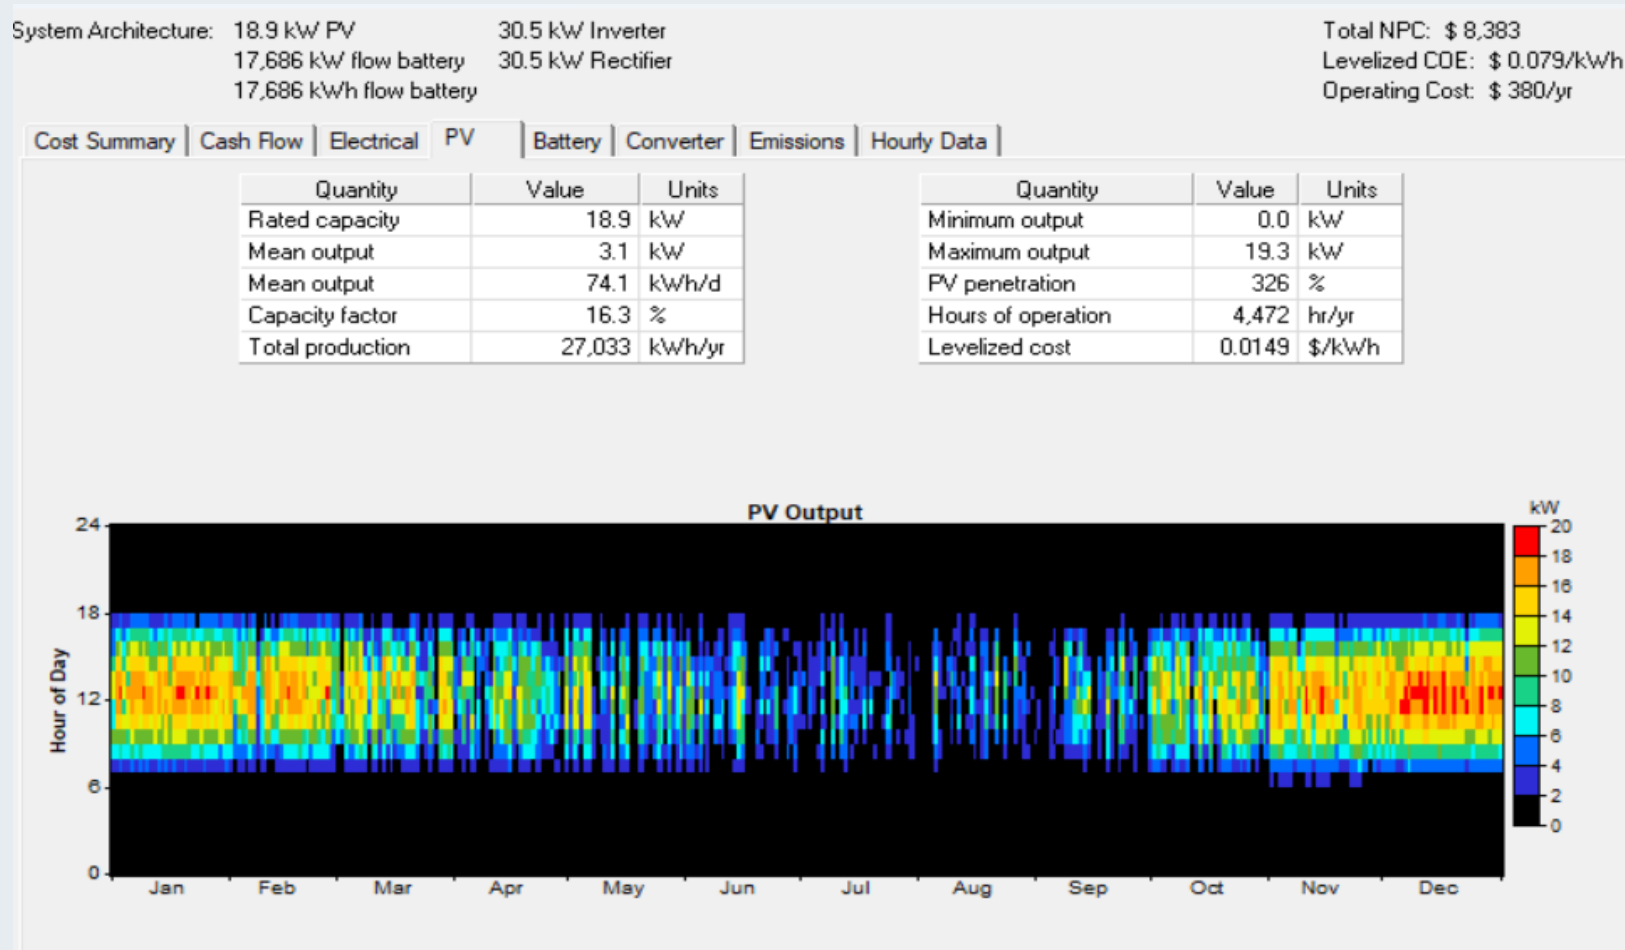

Figure 13. PV output power
- The PV output data is presented in Fig.13